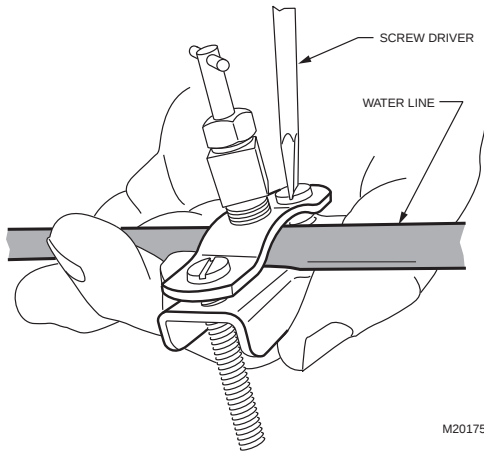

Fig. 6. Installing the saddle valve.
2. Use the self-piercing saddle valve (included) to tap into the water supply line at the location selected. See Fig. 6 If tapping into galvanized pipe, drain line and pre-drill 3/16 in. tap for saddle valve.